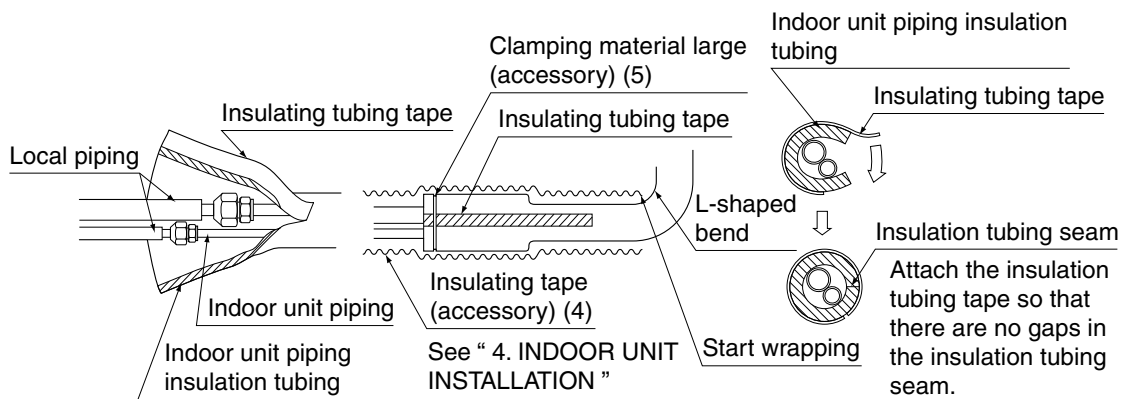

Fig. 15
- After checking for gas leaks, be sure to insulate the pipe connections using the supplementary piping insulation tubing and insulating tape (4). The insulating tape (4) should be wrapped from the L-shaped bend all the way to the end inside the unit. (Refer to Fig. 15)